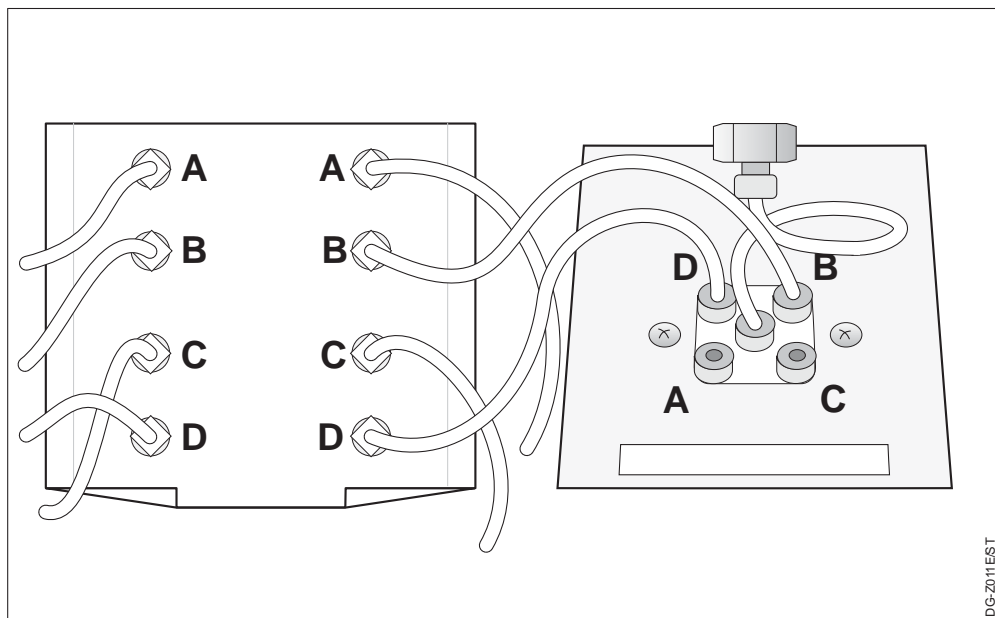

Figure 2.10 Example of a solvent connection from the degasser to a P4000 Pump
4. Remove the luer fitting and immediately connect your pump's inlet tubing to the degasser outlet. Tighten the locknut to finger-tight (Fig. 2.10). A small amount of solvent may spill from the degasser's outlet as you connect the pump's tubing.